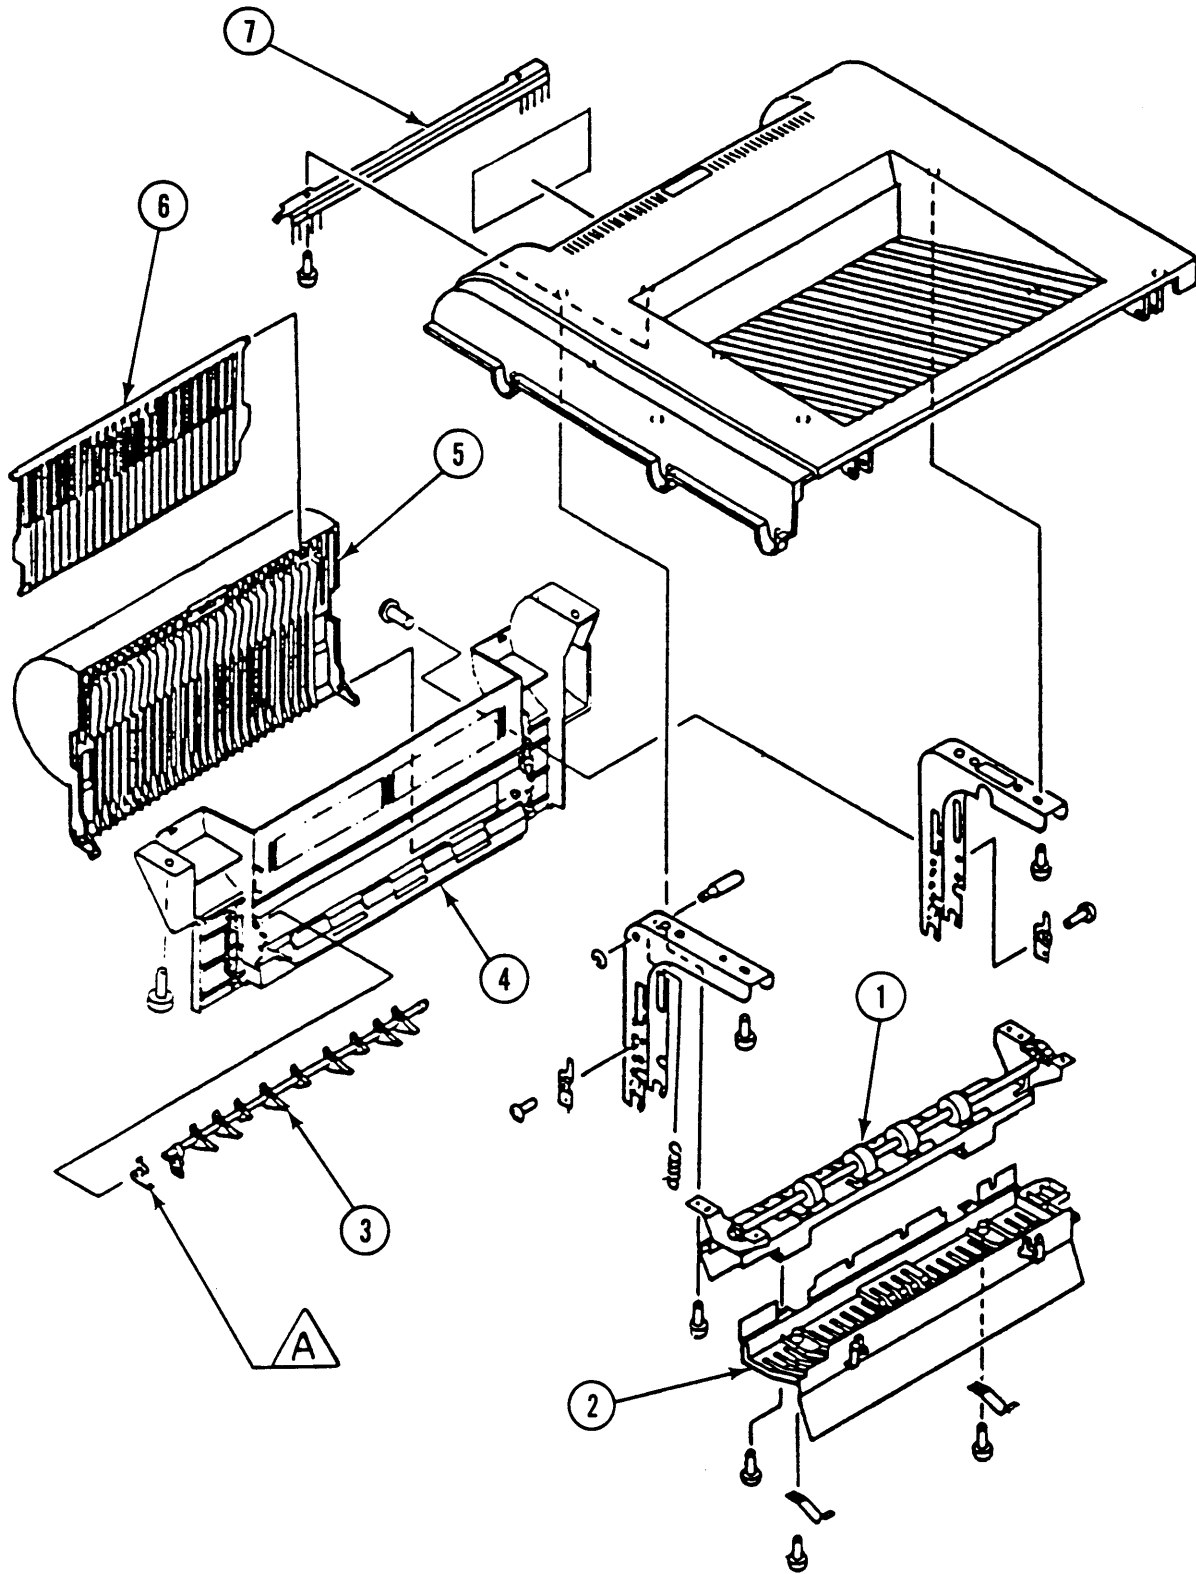

FIGURE 3
- IPL.7 Upper Main Body (Figure 3)
□ UPPER MAIN BODY (Figure 3)